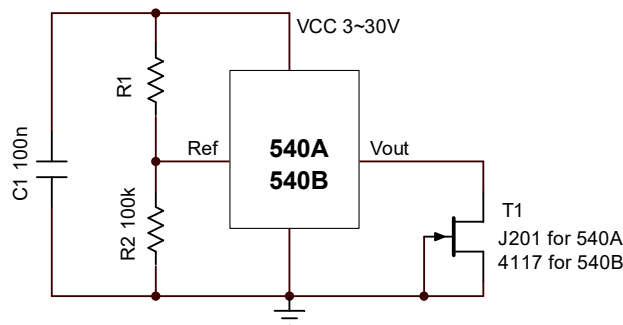

Figure 7 Typical circuit1
**Figure 7** is the typical application circuit.